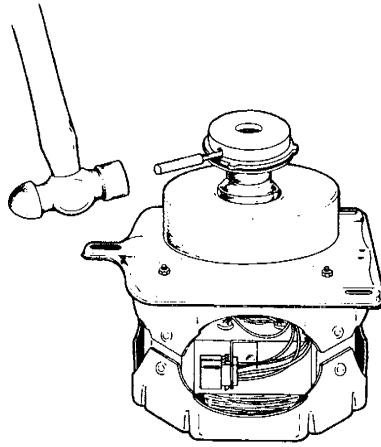

Figure 4 -- Roll Pin Removal
1. Remove the clutch drive plate by using a WX5X147 drive pin tool to remove the roll pin holding the plate to the shaft extension, see Figure 4.